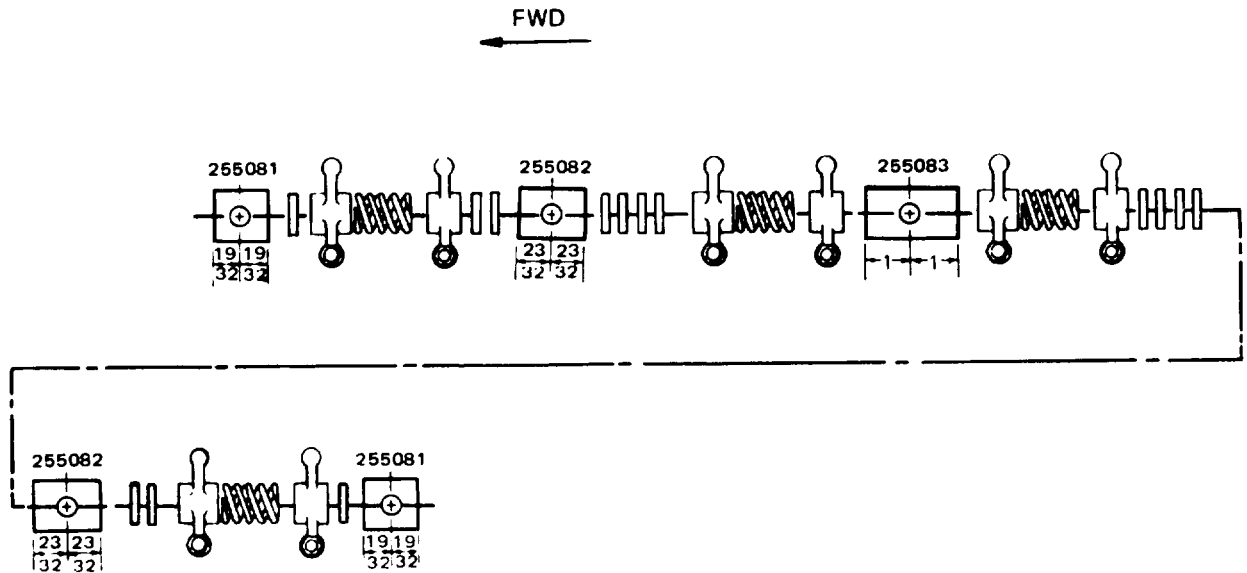
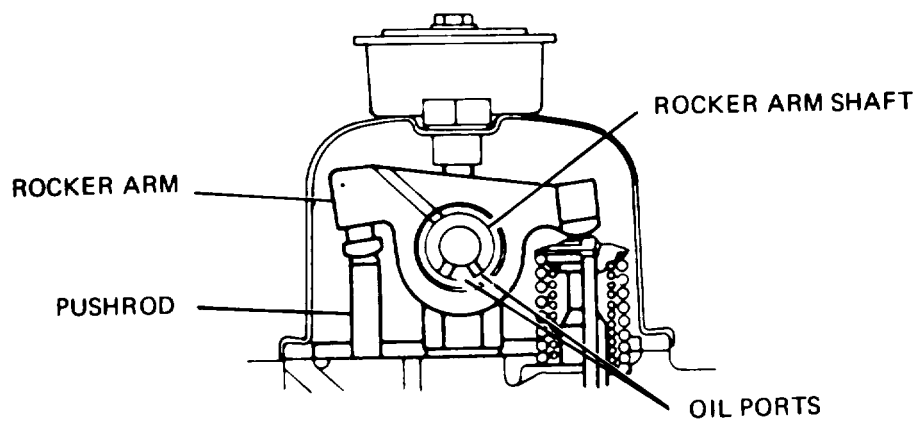
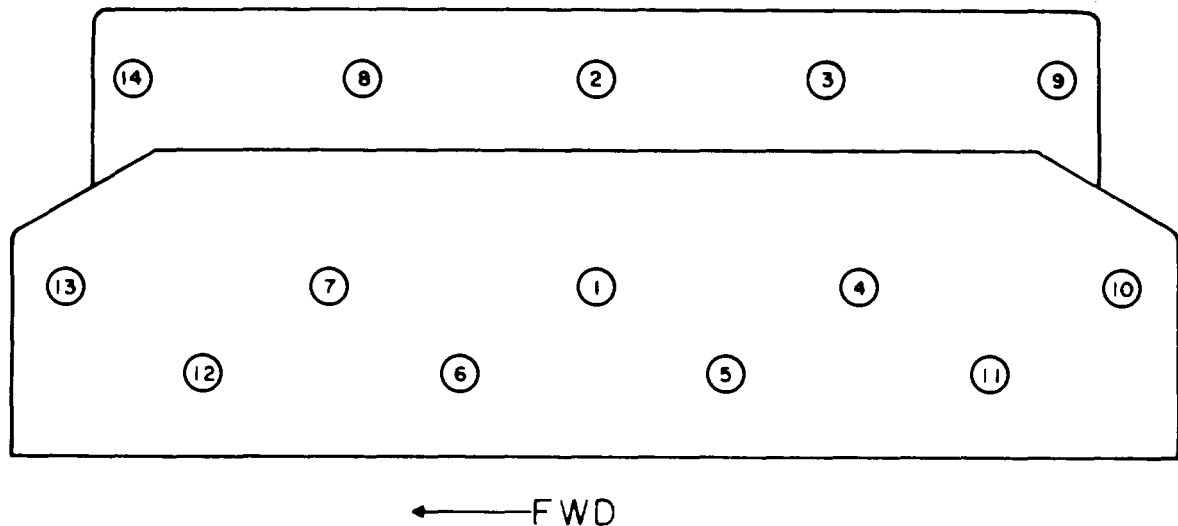

Figure 3-47. Rocker Arm Mounting Blocks Installation
Figure 3-48. Rocker Arm Shaft Positioning
Figure 3-49. Cylinder Head Nut Tightening Sequence
- (3) Assemble rocker arm assembly as follows:
- (a) Install adjusting screws (19) into rocker arms (17).
- (b) Assemble springs (18), rocker arms (17), spacers (16) and mounting blocks (13,14, 15, and 22) onto rocker arm shaft (20). Make sure that mounting blocks and spacers are correctly installed (figure 3-47) and that oil holes in rocker arm shaft are correctly positioned (figure 3-48).
- (c) Install retaining rings (12).
- (1) Install cylinder head and rocker arm assembly in reverse order of removal procedures.
- (2) Tighten nuts to 75 lbs.-ft. torque following the sequence of figure 3-49.
- (3) Repeat the sequence, tightening each nut to 125 lbs.-ft. torque.
- (4) Again repeat the sequence, tightening each nut to a final torque of 160 lbs.-ft. for 9/16 in. DIA stubs and 175 lbs.-ft. for 5/8 in. DIA studs, as specifies in paragraph 1-6v.